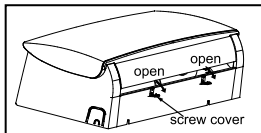
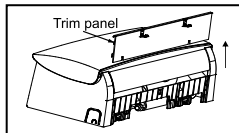

Fig. 1
Fig. 2
- 2) Open the screw cover as shown in Fig. 1 and remove the screw. Then remove the trim panel as shown in Fig. 2.